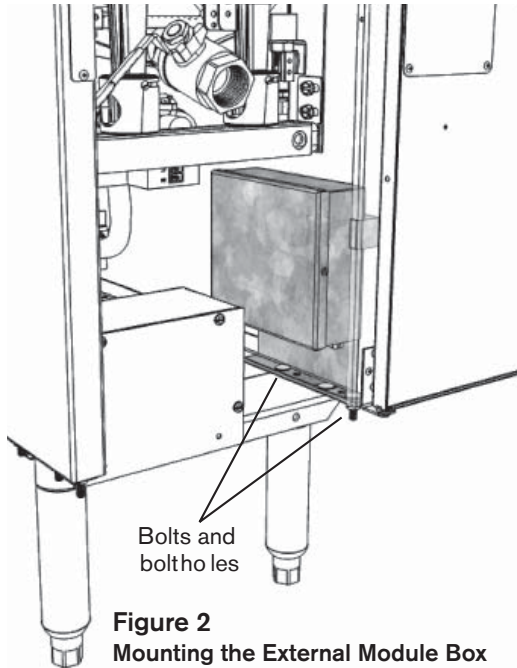

Figure 2
1. Open the fryer door. On drop-in units, remove the front plate panel - (4) screws securing it to the side panels.
2. Remove (2) screws from the front panel of the Power Supply Box located on the leg channel or brace. Either remove the Box from the channel entirely (be careful not to damage the power cord or wire connector) or slide it to the left to provide room for installing the External Spark Module box.
3. On the lower right side of the fryer, locate where the leg channel or brace is attached to the side panel. Note the series of screws or bolts that hold the leg channel to the cabinet panel and the panel stiffener (there is no stiffener on drop-in models). The 061446 External Spark Module assembly has mating holes in its lower flange. The two square holes will line up with the carriage bolts on standard fryer panels, while the two round holes line up with the screws found on drop-in units. See Figure 2.